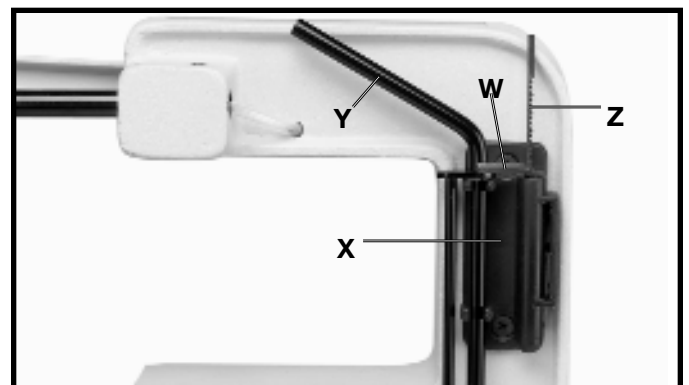

Fig. 15
13. The tool holder (X) Fig. 15, is used to hold the quickset blade changing wrench (Y), (for removing blade from lower blade holder), 4mm allen wrench (W) and extra blades (Z).